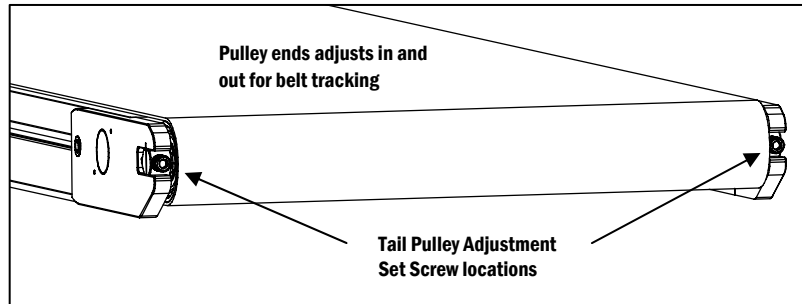

Figure 1
a. With the conveyor running, determine the side of the conveyor where the belt is riding too close. On that side, adjust the M8 Set Screw on the Tail Pulley assembly so that the Tail Pulley Assembly moves away from the conveyor. Use the index marks on the tail shaft and tail plate as the points of reference. This will set the Tail Pulley Assembly at an angle to move the belt away from that side (Figure 1).